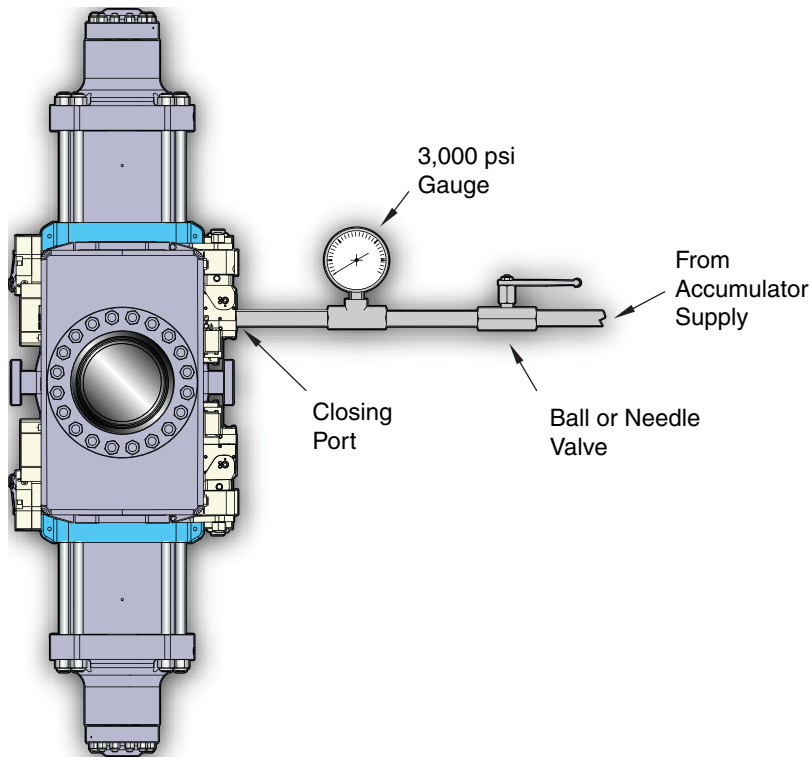

Figure 5-79. PosLock Adjustment Test Setup
2. Set up the closing pressure per Figure 5-79 on page 5-98, placing the gauge as near to the closing port as possible. It is not necessary to supply accumulator pressure in excess of the required PosLock locking pressure required for the BOP.